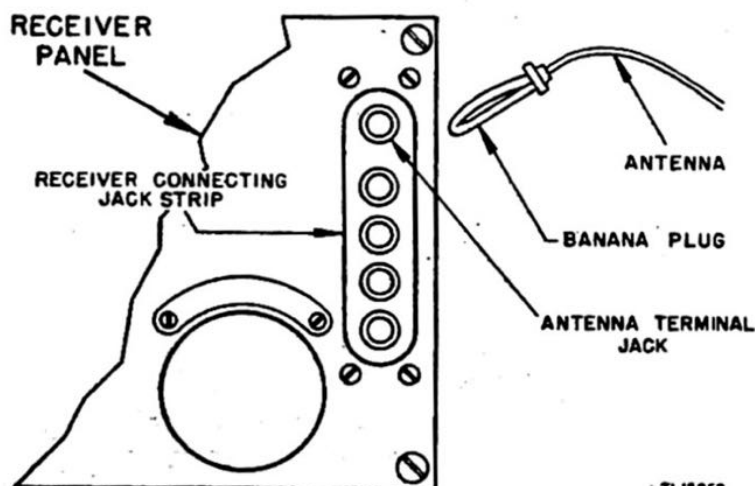

Figure 18. Mark 32 Type Receiver, right side of front panel, cutaway view, installation of antenna.
(2) If the transmitter is used separately, the installation is made as described in subparagraph (1) above, except that the transmitter and receiver connecting cable is not used. Installation of the receiver only requires the antenna but no ground or counterpoise. Fasten the end of the antenna nearest the set to a banana type plug as shown in figure 18, and insert into the 空 (antenna) jack of the receiver connecting jack strip.